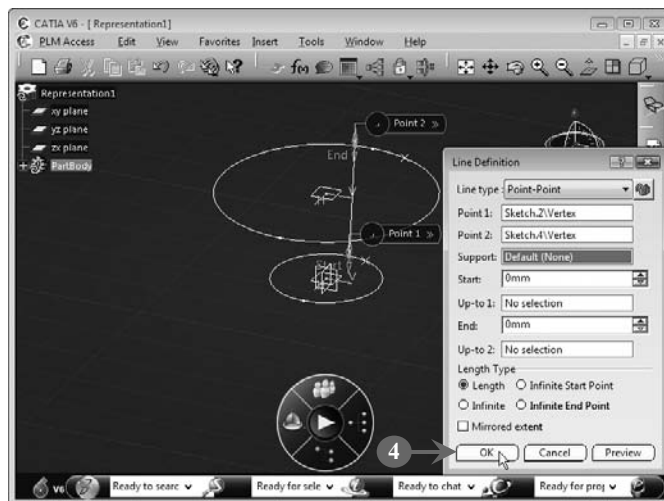

FIGURE 5.104
The selected point is added to the **Point 2** box in the **Line Definition** dialog box (Figure 5.104).
4. Click the **OK** button to close the **Line Definition** dialog box, as shown in Figure 5.104: